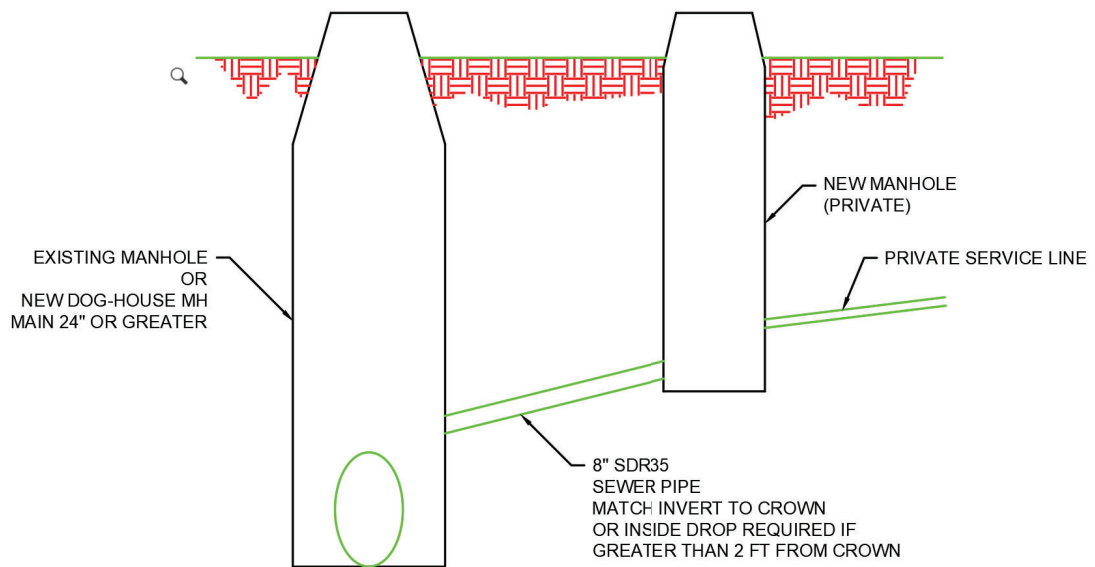

Figure 23 - Large Wastewater Main "Private" Service Connection
- 6.6. Private Wastewater service lines connections to wastewater mains twenty-four (24) inches and greater must connect to the wastewater main by installing a new manhole with an eight (8) inch pipe that connects to an existing manhole which serves as a vacuum break. Invert of eight (8) inch pipe must match the crown of the existing main. If depth of main is greater than fifteen (15) feet, and inside drop connection is allowed. A sewer backflow prevention device is recommended on the private service line. See Figure 23.